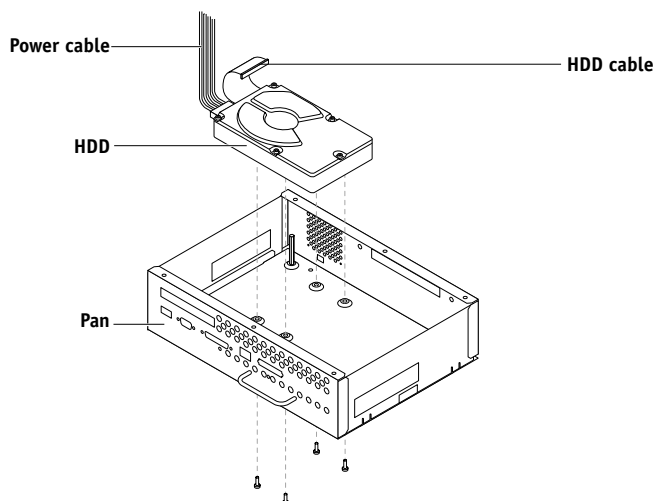

FIGURE 4-13 Replacing the HDD
6. With the pan on it side, remove the four screws on the bottom of the pan that secure the HDD (see Figure 4-13).
3. **With the pan on its side, align the four holes in the bottom of the HDD with the holes in the bottom of the pan and replace the four screws you removed earlier (see Figure 4-13 on page 4-19).**